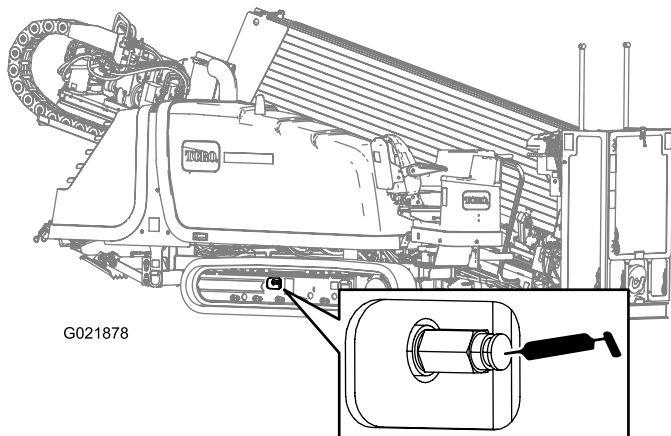

Figure 137
2. Remove dirt and debris found around the track-tension grease valve (Figure 137).
4. Apply grease to the fitting until the tension reaches 22,063 kPa (3,200 psi) as shown in Figure 137.
4. Turn the track-tension grease valve counterclockwise **no more than 1 revolution** (Figure 137).